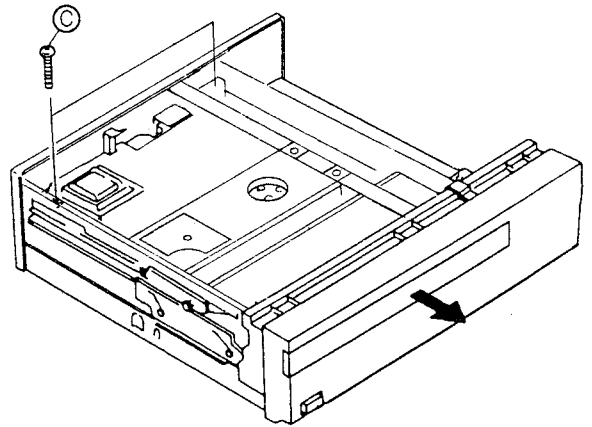

Fig. 7-2
### 7.2 REMOVING THE TRAY (Fig. 7-2, 3)
- ① Remove two stopper screws (C) shown in Fig. 7-2. When the power can be turned ON, press the OPEN (▲) button then pull the tray out from the player.